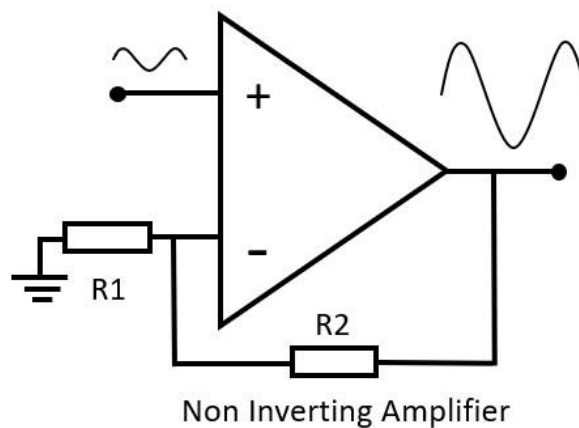

Figure 4: Inverting amplifier.
3. **The non-inverting amplifier** is used where the input and output are in phase. The gain of the amplifier is determined by the ratio of  $R_1$  and  $R_2$  (Figure 4).